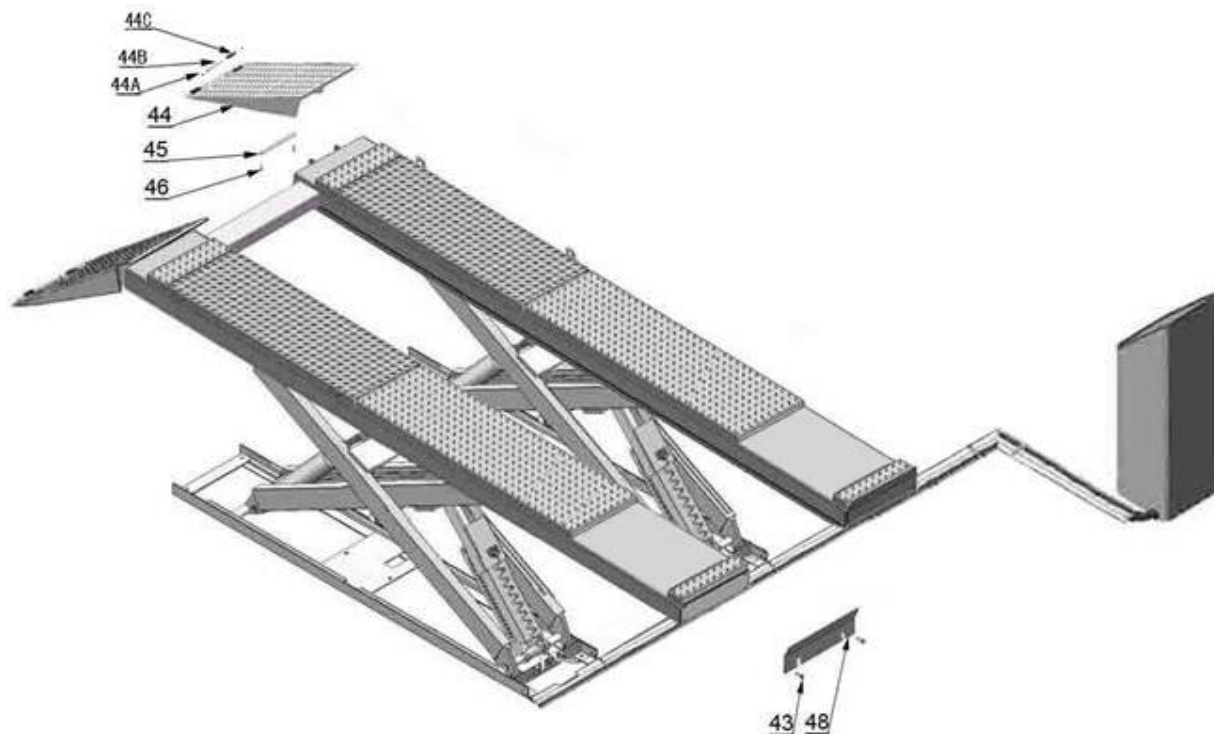

Fig. 6
1.3 Illustration of scissors lift **AX-12A** on surface installation (See Fig.6).